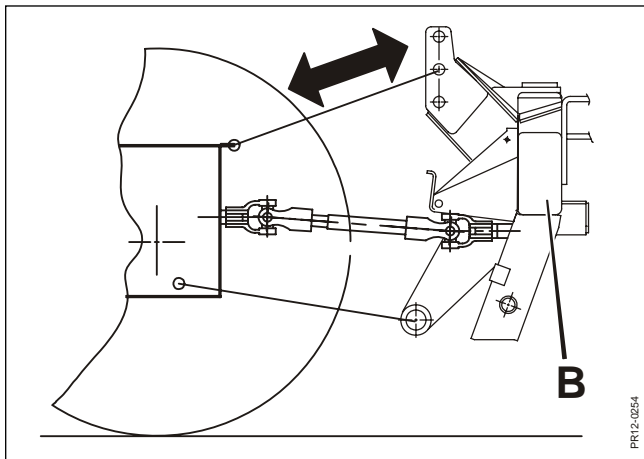

Fig. 2-15
- Fig. 2-15 10) The machine is lowered to working position and the length of the top link is adjusted so that the headstock **B** is in vertical position.